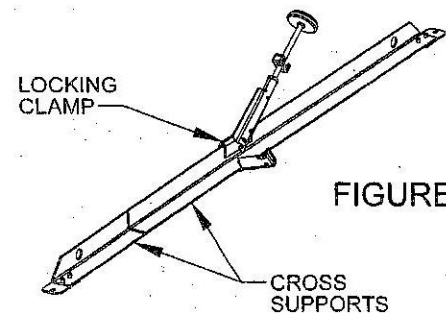
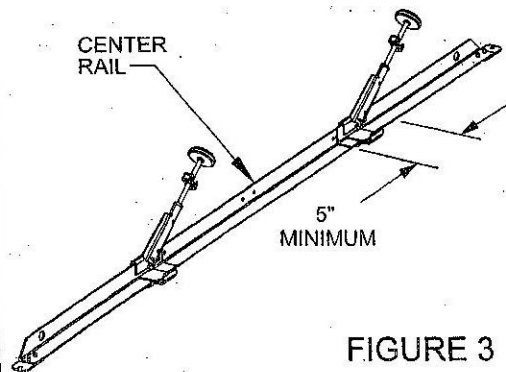

FIGURE 2
FIGURE 3
Step 2. For the EL1 and ELM1: Slide CROSS SUPPORTS through LOCKING CLAMP so they overlap. The LOCKING CLAMP should be centered on overlap. See Figure 2. For the EL2 and ELM2: The CENTER RAIL should be placed between the CROSS SUPPORTS and overlap on the outside of the CROSS SUPPORT. The LOCKING CLAMP should be attached as stated above. See Figure 3.